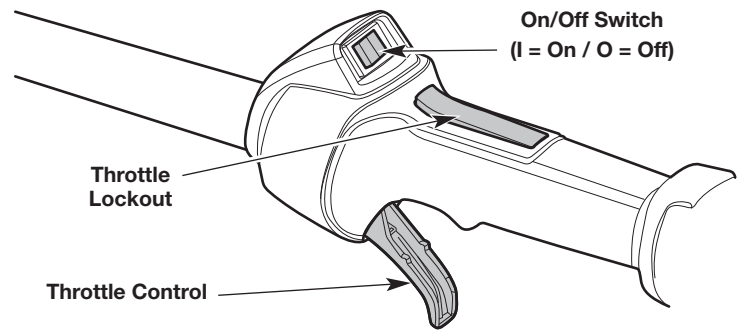

Fig. 14
**NOTE:** There is no need to turn the unit on. The On/Off switch is in the **On (I)** position at all times (Fig. 14).
4. Press and hold the throttle lockout (Fig. 14). Squeeze and hold the throttle control (Fig. 14).
2. Press and hold the On/Off switch in the **Off (O)** position until the engine comes to a complete stop (Fig. 14).